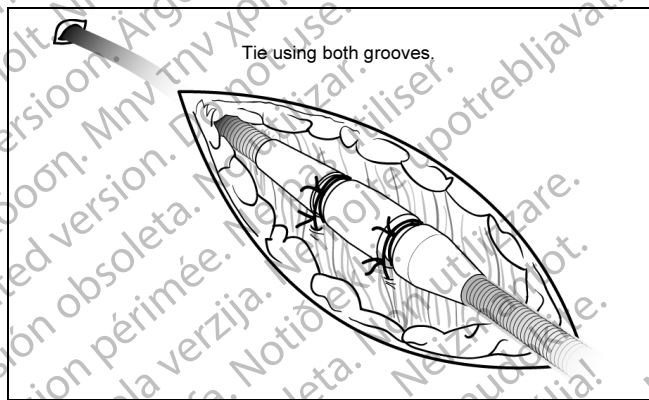

Figure 7. Using the sleeve with the percutaneous implant technique.
1. Peel back the introducer sheath and slide the suture sleeve deep into the tissue (Figure 7).